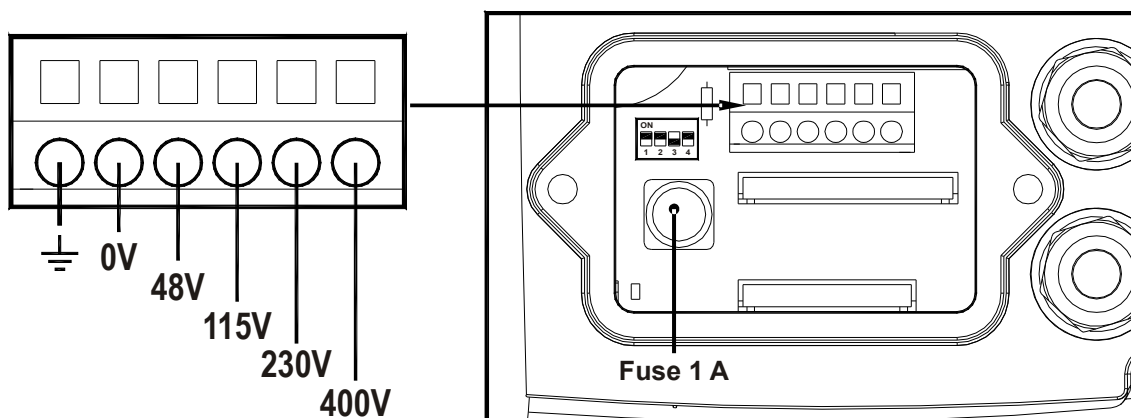

Fig. 8: Internal connection
- Depending on power supply, connect cables to the appropriate terminals as shown in Fig. 8.